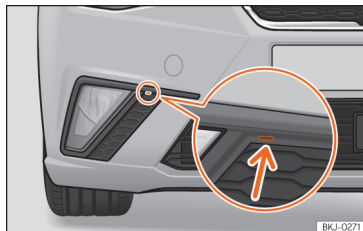

Fig. 166 Fog light: remove the grille
- Lever the groove with a screwdriver >>> **Fig. 166** (arrow). Next, remove the clips located on the edge of the grill, levering them gently.